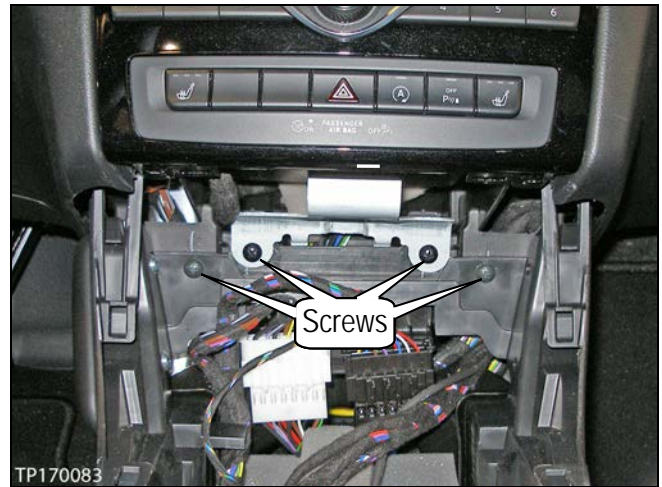

Figure 8
- f. Remove the four (4) screws shown in Figure 8.